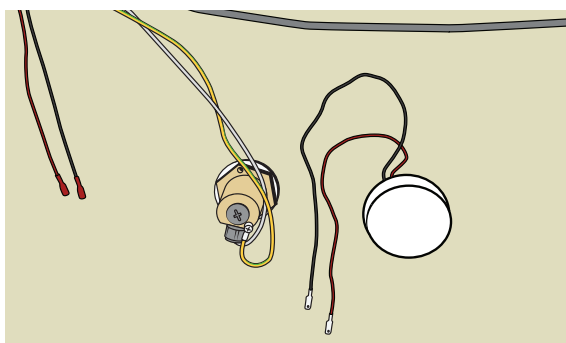

Figure 43
26. If equipped with Music, disconnect the speaker on the left and right side. See Figure 43.